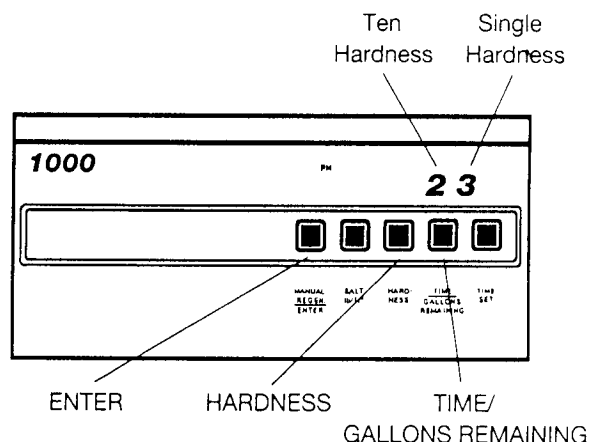

Figure 9
A. Simultaneously press the **HARDNESS** and **TIME/GALLONS REMAINING** buttons (Figure 9).